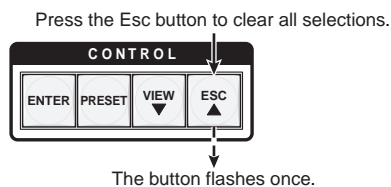

Figure 3-43 — Clear all selections
1. Press and release the Esc button (figure 3-43).